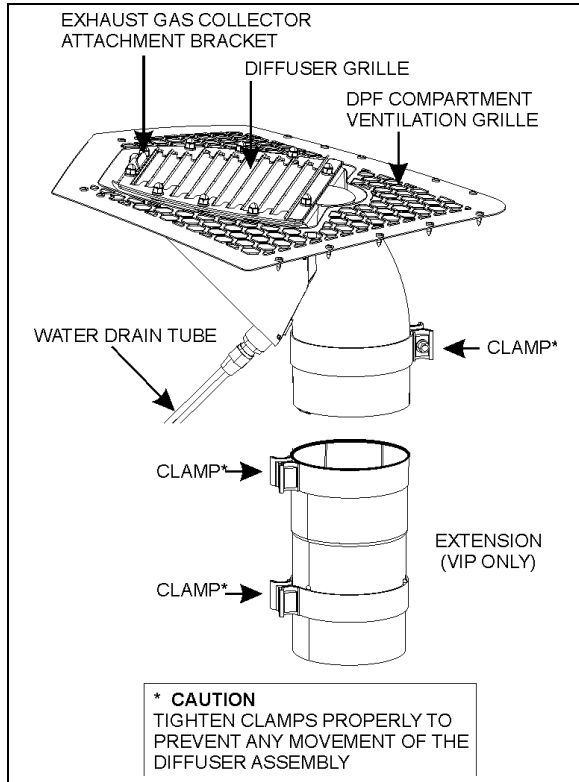

FIGURE 9: DIFFUSER ASSEMBLY OVERVIEW 04014
5. Reinstall the DPF compartment grille. Put a small quantity of Sika 221 on screws (fig.9).